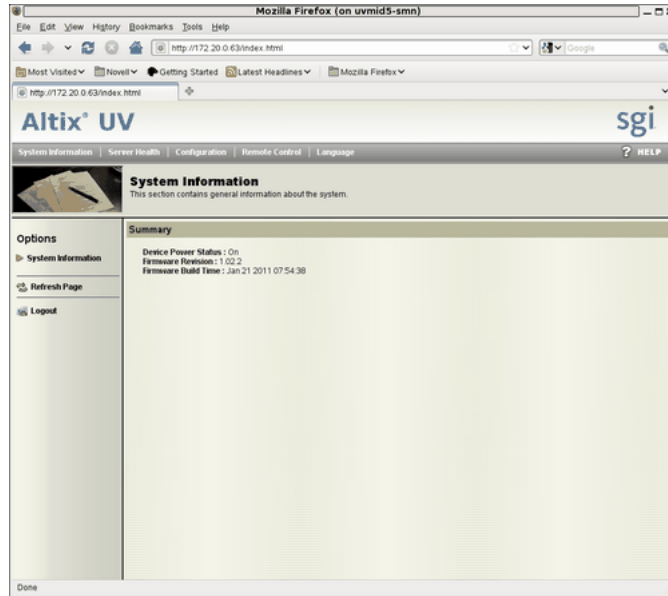

Figure 3-2 BMC System Information Screen
5. The **System Information** screen appears, as shown in Figure 3-2 on page 44. Click on the **Remote Control** tab.